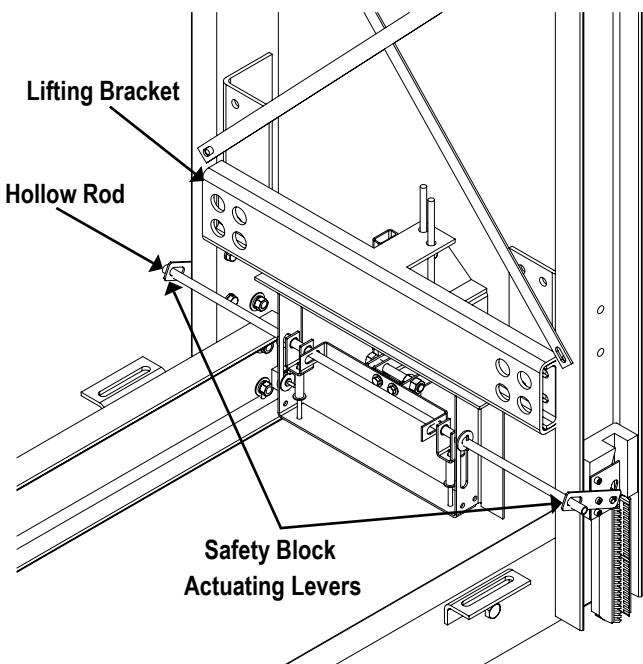

Figure 38 Lifting Bracket Mounted
- 8) Position the lifting bracket (with attached cables) so that the $\frac{1}{2}$ " (13 mm) hollow rod extends through each safety block actuating lever. See Figure 38. Using eight (8) carriage bolts, attach the lifting bracket to the uprights.